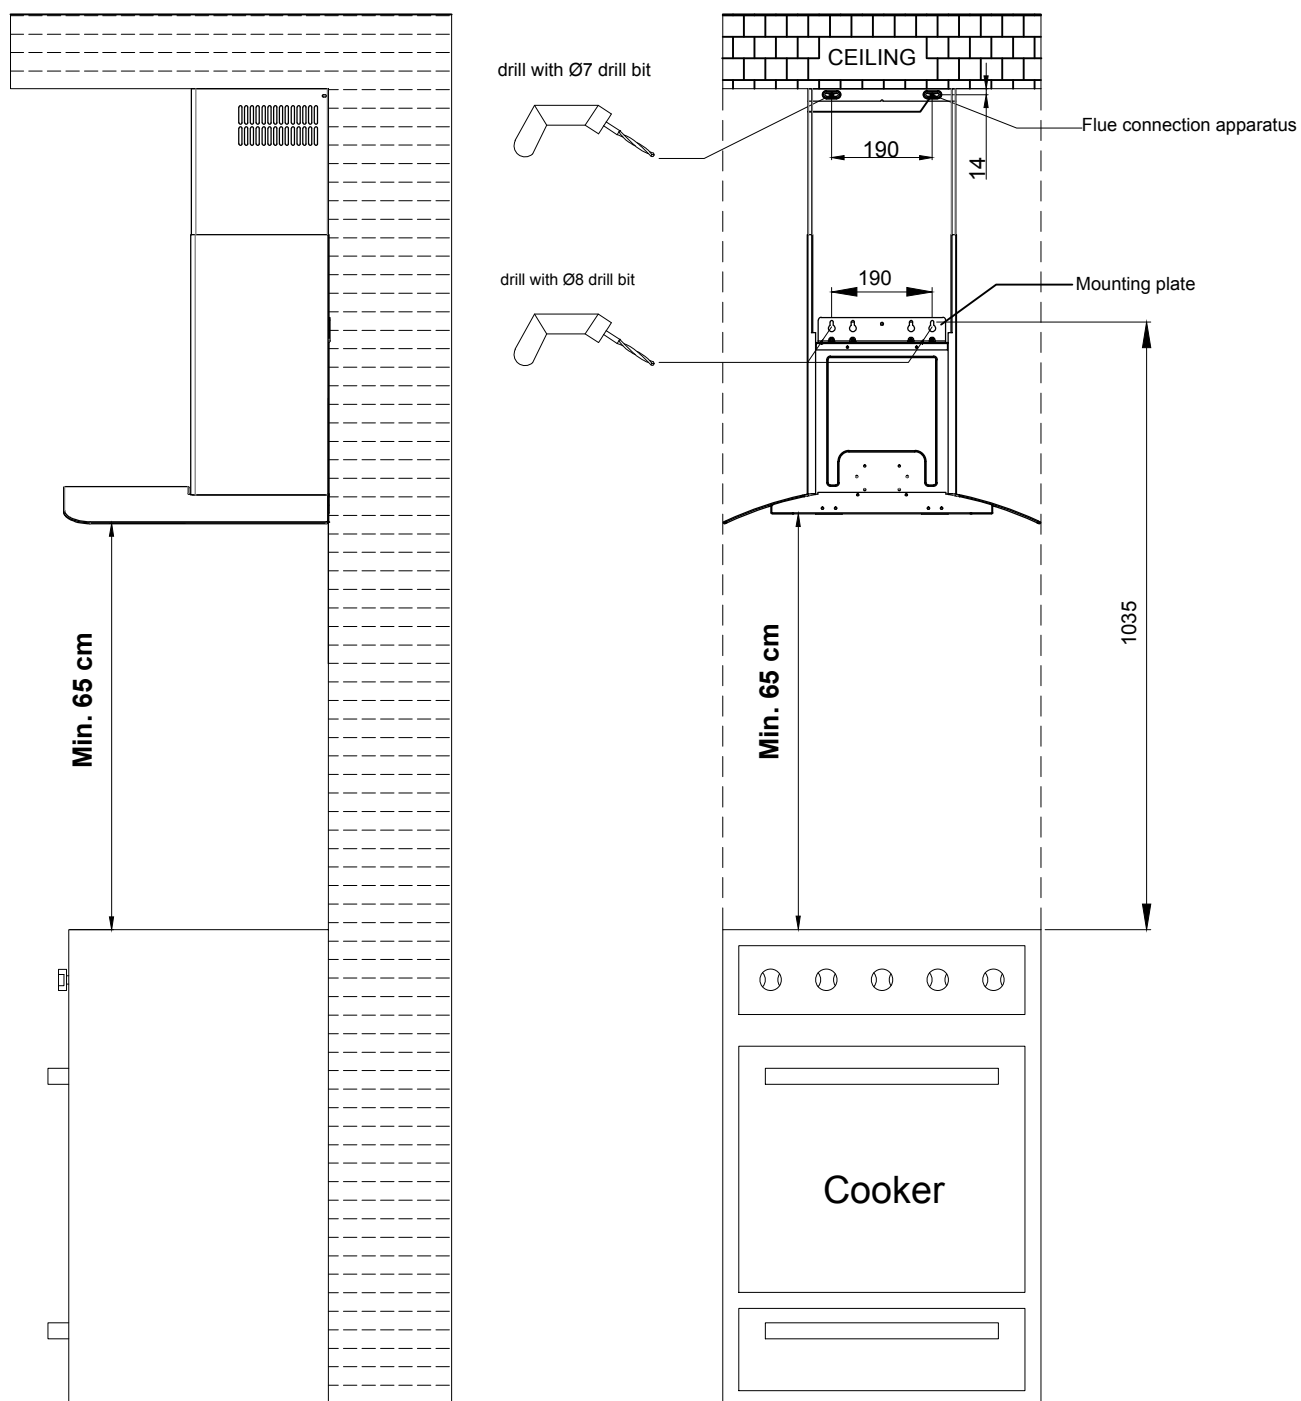

Figure A4
- 1- Drill the required holes in accordance with the distances specified in Figure A4. (Page 5)
- 3- Drive Ø7mm threaded inserts into the holes drilled in accordance with the dimensions provided in Figure A4.
- 4- Screw the flue mounting apparatus to the wall by using 4x35mm (4) screws.